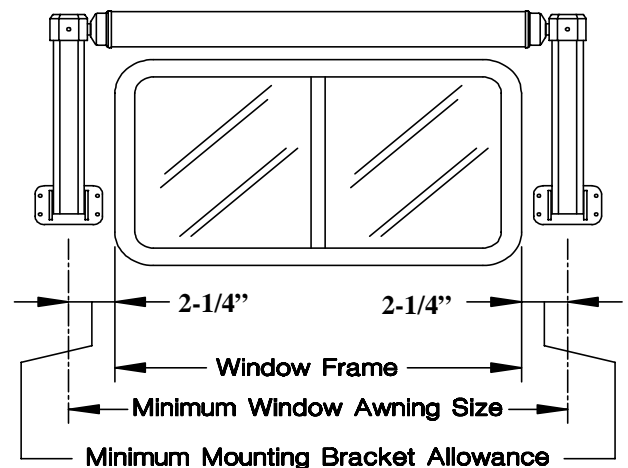

figure 1
- Measure the width of the window including frame. Add an extra (2-1/4") to each side of the frame (4-1/2" total) to allow space for the mounting brackets. (Figure 1.)